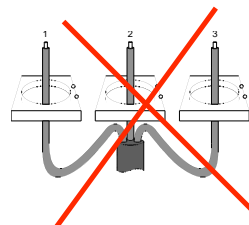

Fig. 3
- DO NOT pass individual conductors through separate toroids, as shown in Fig. 3